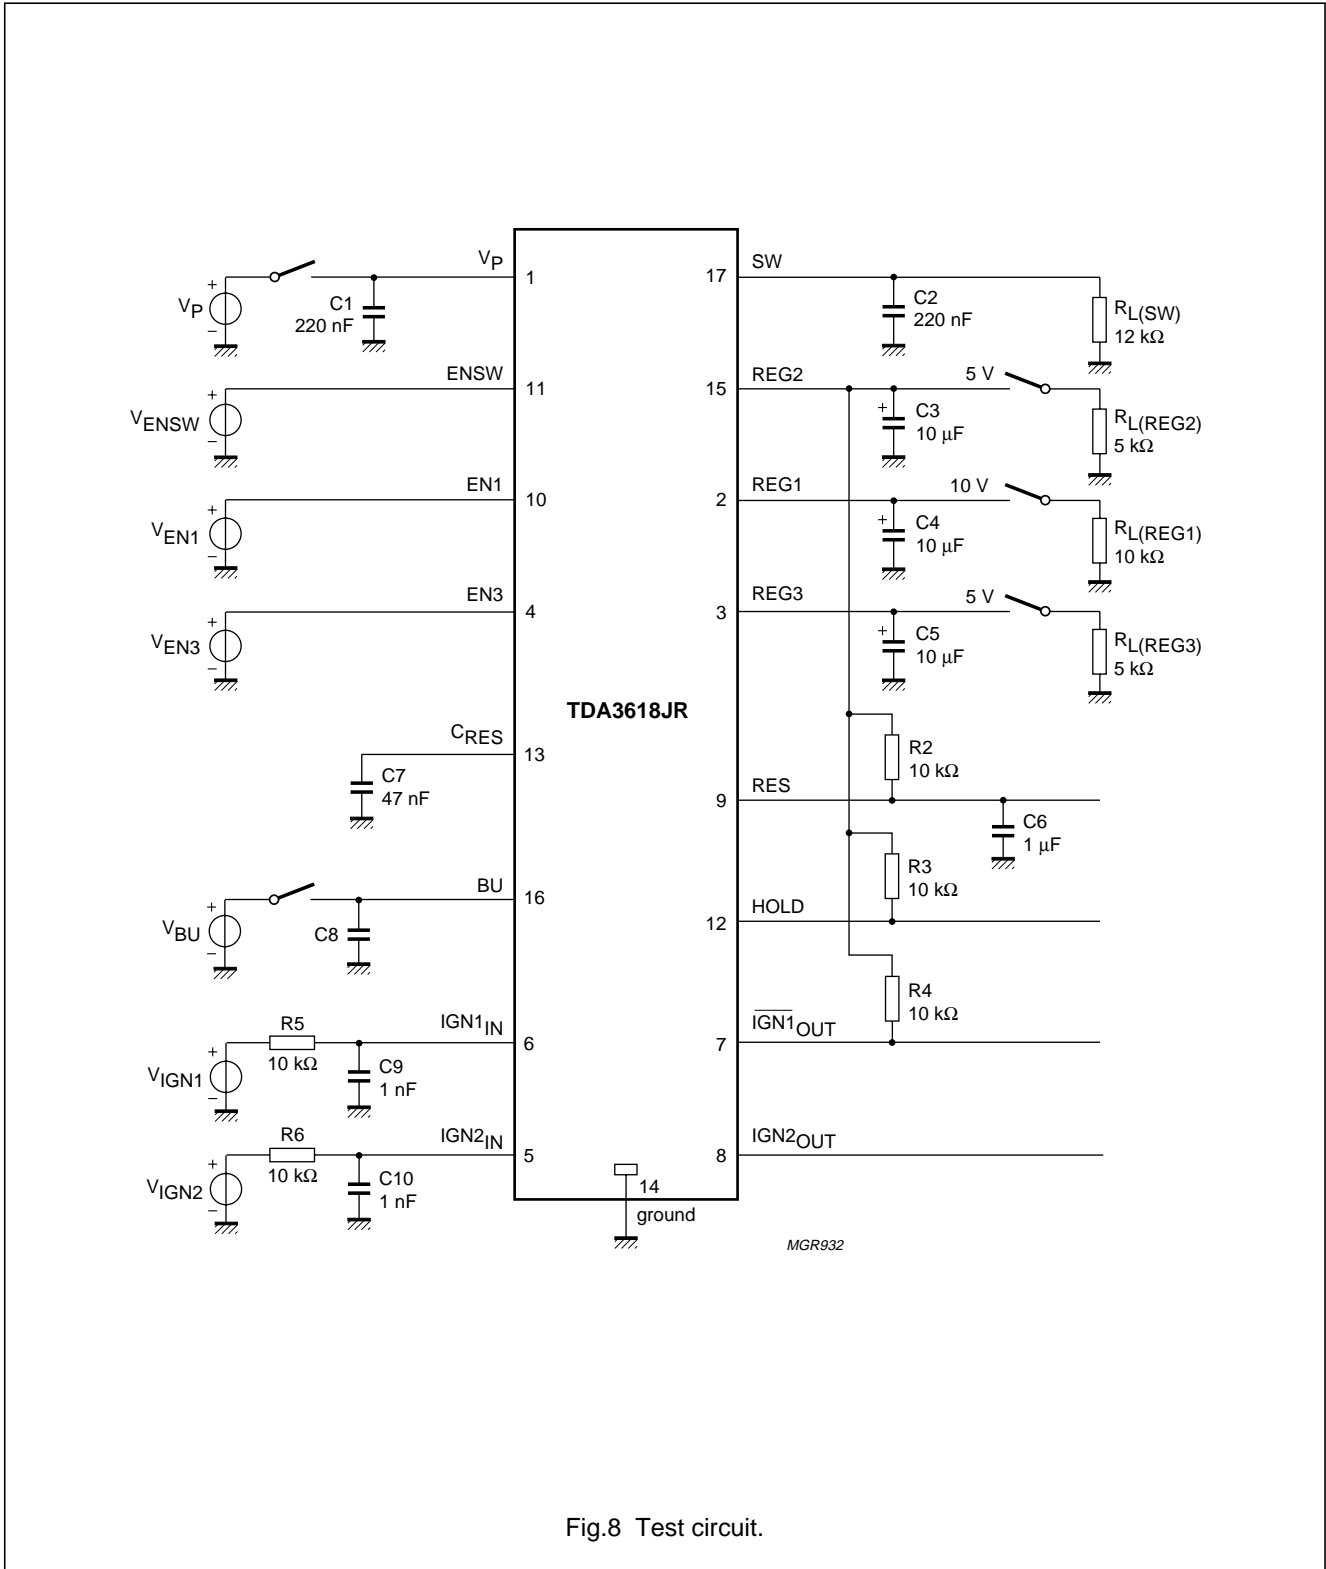

Fig.8 Test circuit.
- The quiescent current is measured in the standby mode with pins EN1, EN2 and ENSW connected to ground and  $R_{L(\text{REG2})} = \infty$ ; (see Fig.8).